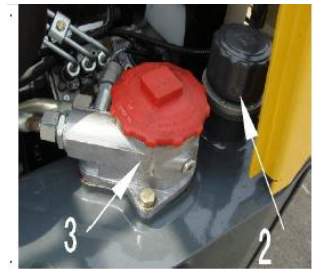

Fig. C- 45
1. To check the hydraulic oil level, loosen the cap (Fig. C 45:2) by one turn and close again immediately (pressure escapes).
2. Screw out the oil level gauge (Fig. C 45:1).
4. If the oil level is low, loosen the purge filter (Fig. C 45:2) and replenish the hydraulic oil through the opening until the oil level has reached the marks. Screw in the purge filter again.
The hydraulic system is equipped with one return filter (Fig. C 45:3). An incorporated by-pass valve protects the return filter from excess pressure. When the by-pass valve is open, the filter is not efficient. Therefore, you must replace the filter cartridge as soon as possible.